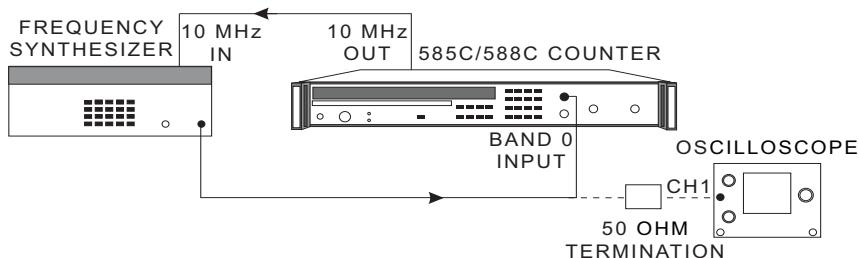

Figure 6-2. Band 0 Range and Sensitivity Test Setup 1 (100 Hz to 10 MHz)
1. Connect equipment as shown in Figure 6-2.